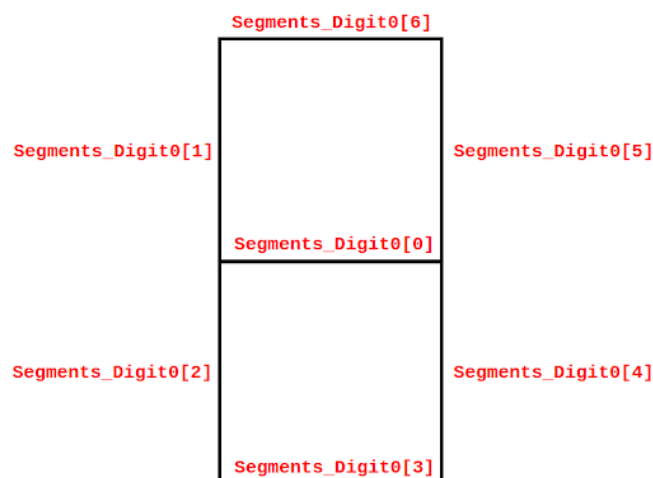

Figure 12. Segment numbering
- You do not need an enable register now. Instead, you need eight 7-bit registers. Call them: `Segments_Digit0` – `Segments_Digit7`, one for each of the eight 7-segment displays. In each of these registers, each bit indicates if the corresponding segment is ON (0) or OFF (1). For example, if all the bits of the first register (`Segments_Digit0`) are 0, all segments in the right-most digit will be ON, whereas if all the bits of the first register are 1, all segments of the right-most digit will be OFF. Use the segment numbering shown in Figure 12 (as shown for `Segments_Digit0`, but it will be the same numbering for all digits).